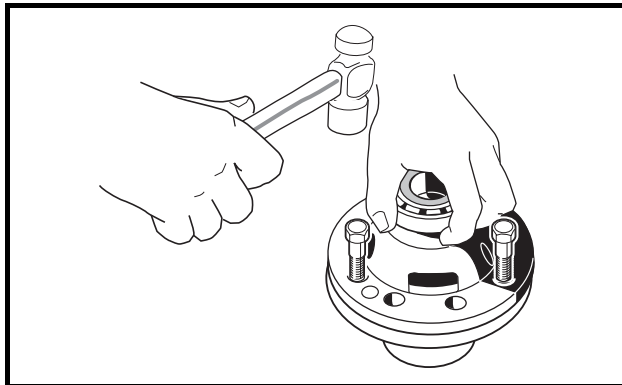

Figure 28-14 Separate Housing
- 8.3. Separate the differential gear case housing. If necessary, install two of the hex bolts (removed previously in step 8.1.) into the differential gear unit and, while holding the unit slightly above the work area, lightly tap the bolt heads (**Figure 28-14, Page 28-8**). Remove the two bolts.